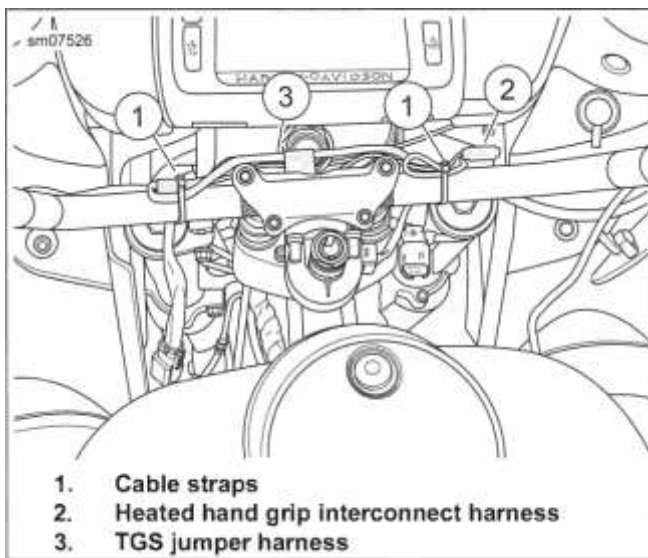

Figure 3-140. Secure Harness to Handlebar
4. See Figure 3-140. Disconnect and remove terminals from heated hand grip interconnect connector (2).